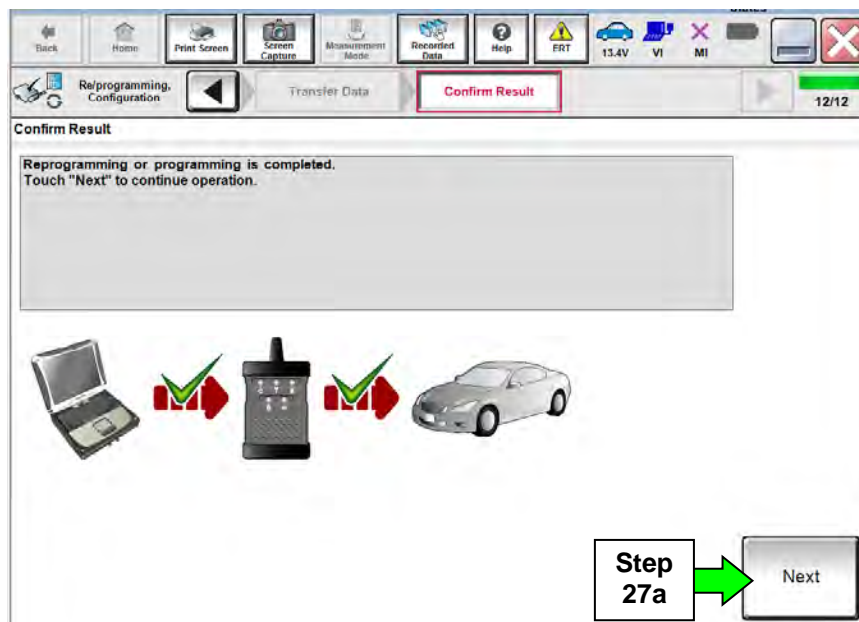

Figure 20
27. When the screen in Figure 20 appears, reprogramming is complete.